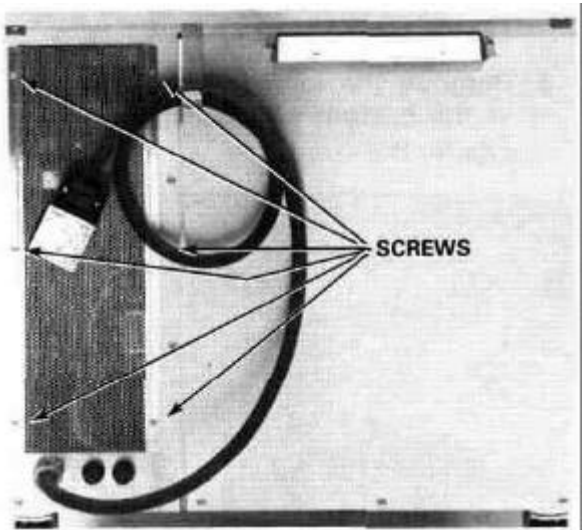

Figure 20
- 2. Using the phillips screwdriver, remove the rear access cover. (See Figure 20)